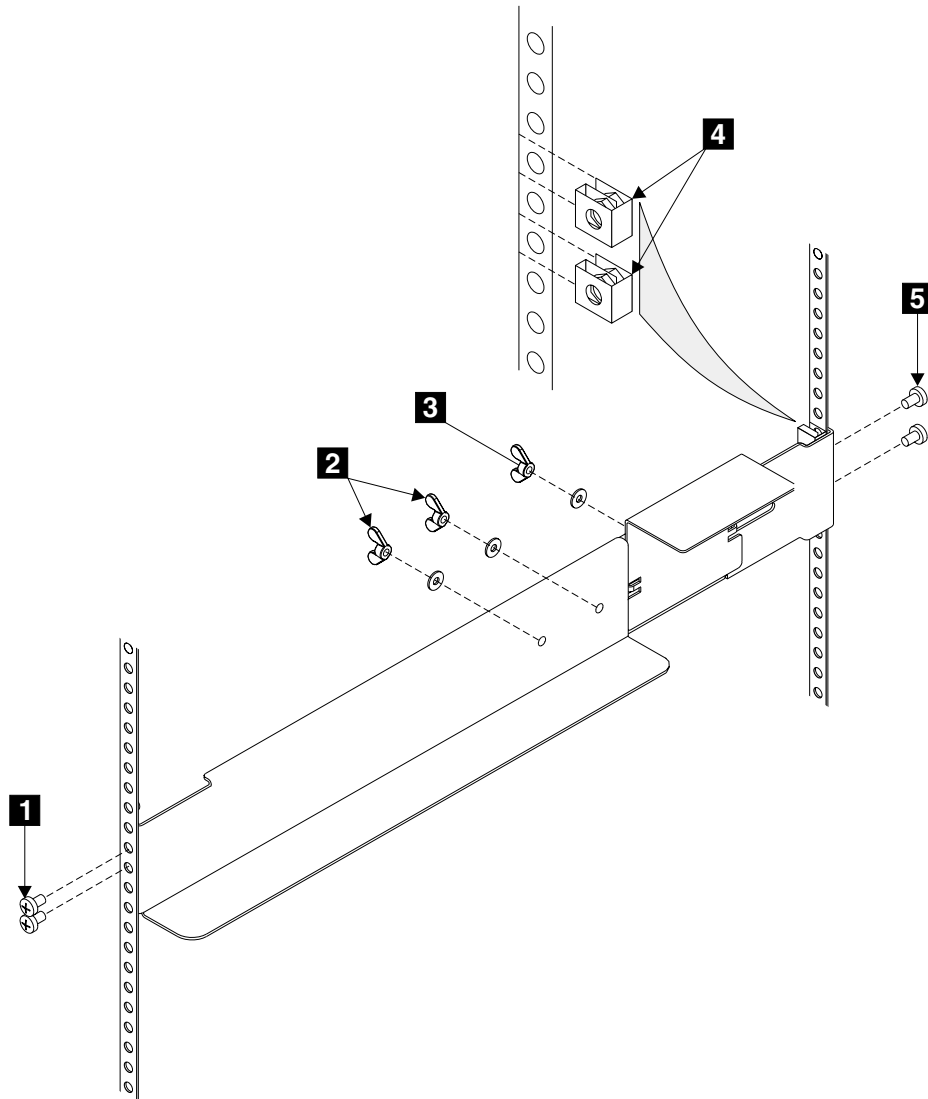

Figure 118. Installing support rails for a uninterruptible power supply into the rack
3. At the back of the rack, observe the EIA positions, and determine where you are going to install the uninterruptible power supply (see Figure 118 on page 168). A uninterruptible power supply must always be installed into the lowest available position in the rack. The only device that can be below a uninterruptible power supply is another uninterruptible power supply.